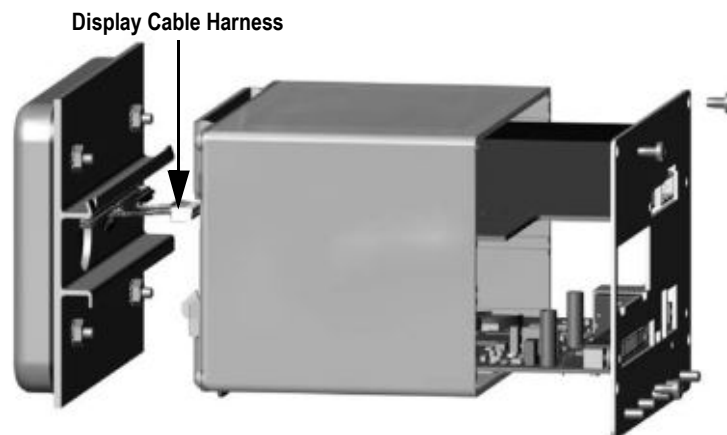

Figure 2-7. Display Cable Harness Wiring
5. Disconnect the display cable harness shown in Figure 2-7.